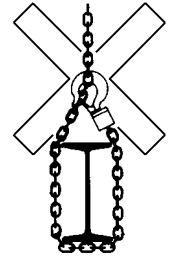

Fig. 4
- The load chain must not be used for lashing purposes (slings) (Fig. 4).